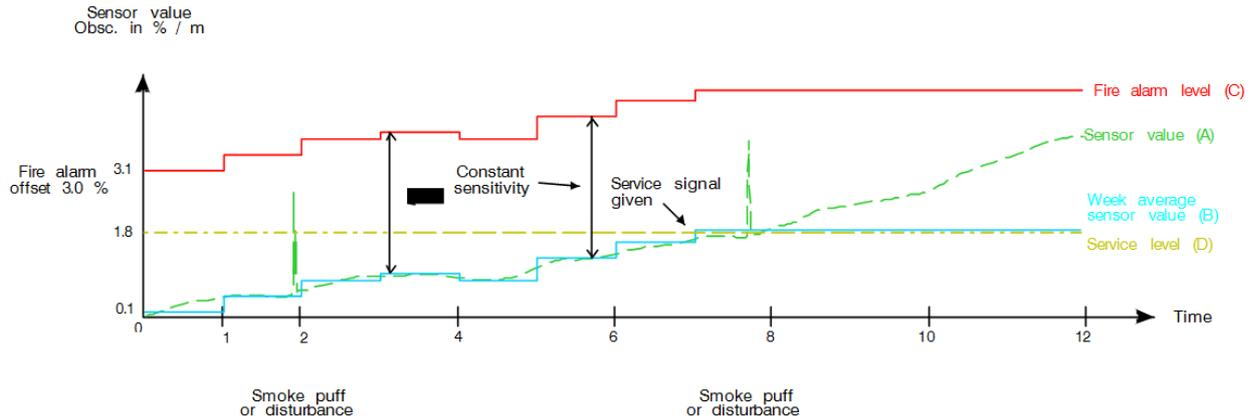

Figure 34 Fire Alarm Level Graph for the Analogue Smoke Detector
An analogue smoke detector is like a "sensor". It detects its environment at all times. Each detected analogue value is converted in the detector to a digital "**sensor values**", which is continuously picked up and evaluated by FT128 for each individual detector. In Figure 34 the (digital) sensor values (during a certain time) are represented by the graph "**Working level**".
Each hour, one sensor value is stored in a special memory (in FT128) and each week, these stored sensor values are used to calculate a "**week average sensor value**".¹¹⁰ This is done for each analogue smoke detector individually. In Figure 34 the (digital) week average sensor values are represented by the graph "**Week average sensor value**" (B).
A "**Fire Alarm Offset**" (value) is added to the week average sensor value to get each detector's "**Fire Alarm Level**", i.e. the fire alarm level will be adjusted in relation to each new week average sensor value in order to keep the detector's fire alarm sensitivity constant. The fire alarm level is in Figure 34 represented by the graph "**Fire alarm level**" (C) - parallel with the graph "**Week average sensor value**" (B).
In Figure 34 (at Time = 0):
Service signal will be given when the week average sensor value for a detector has reached the service signal level (1.8 %/m), i.e. the detector is "dirty" and has to be replaced. See "**Service level**" (D) Figure 34. The week average sensor value will now stay on 1.8 %/m, i.e. the detector will be more sensitive until it is replaced with a new one.